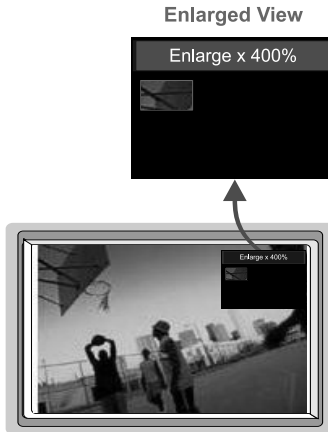

Figure 29: OSD Enlarge Status
The zoom ratio and the zoom position are illustrated by a small rectangle inside a transparent pop-up OSD Enlarge status box that appears at the top right corner of the screen, as the example in Figure 29 illustrates:
- Using the Zoom + and/or the Zoom - control keys1 on the infra-red remote control transmitter (see Figure 55). The pop-up OSD Enlarge status box continuously displays the zoom ratio and position, as Figure 29 illustrates